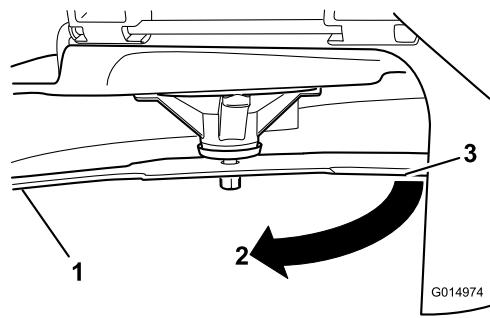

Figure 90
3. Measured distance between blade and the surface (A)
4. Rotate the same blade 180 degrees so that the opposing cutting edge is now in the same position (Figure 90).